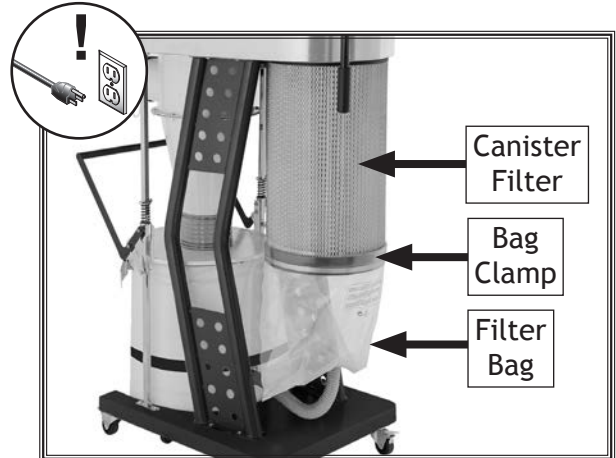

Figure 60. Filter bag components.
2. Release bag clamp, then remove filter bag (see **Figure 60**). Tie bag closed.